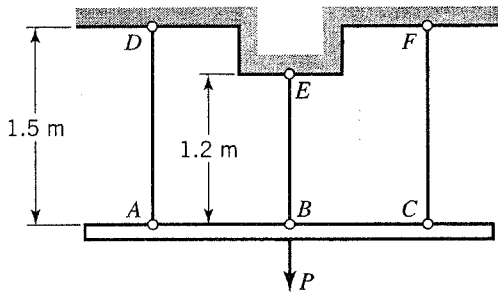

FIGURE P4.4
4.4. The members  $AD$  and  $CF$  in Figure P4.4 are made of elastic-perfectly plastic structural steel, and member  $BE$  is made of 7075-T6 aluminum alloy (see Appendix A for properties). The members each have a cross-sectional area of  $100 \text{ mm}^2$ . Determine the load  $P = P_Y$  that initiates yield of the structure and the fully plastic load  $P_P$  for which all the members yield.